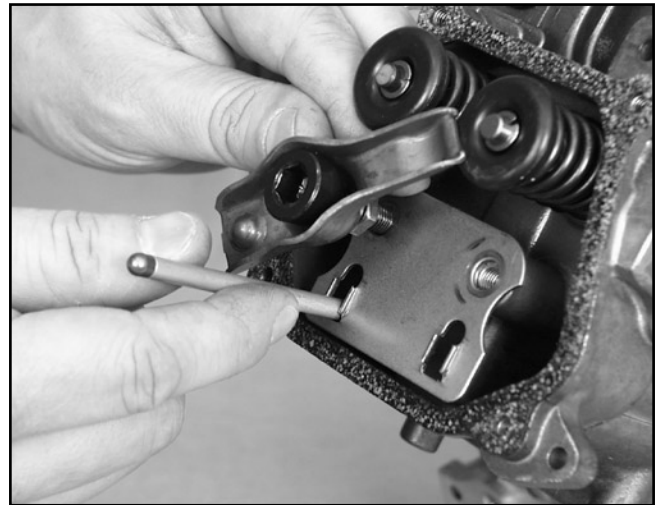

Figure 6-15. Install Push Rods
7. Rotate the rocker arm as shown in Figure 6-15 to install the push rod. Insert the push rod through the push rod guide plate, with either end resting against the tappet. Place the rocker arm over the push rod. Alignment is correct when push rod ball rests in the rocker arm socket.